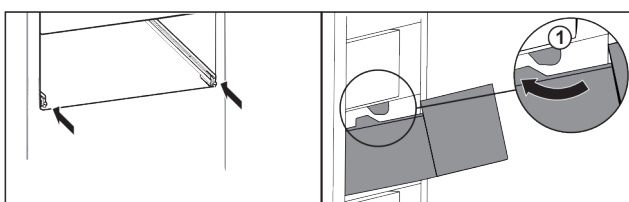

Fig. 40*
- ▶ Guide the drawer around the stoppers Fig. 40 (1).